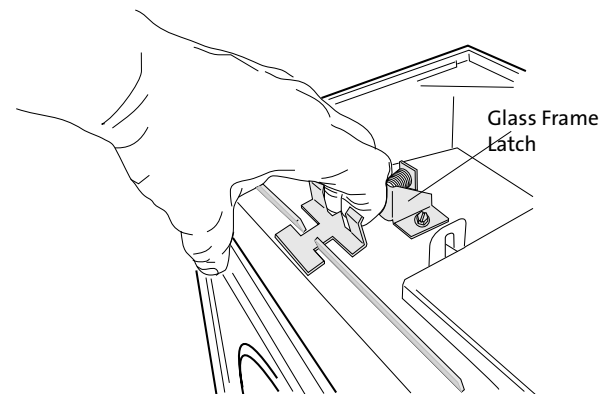

Figure 49. Release the glass frame latches.
- 2. Remove the Glass Frame.** Disengage the two compression latches located at the top of the firebox and lift the glass frame up and off of the stove. See Fig. 49.